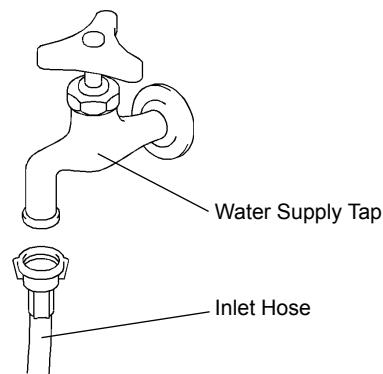

Fig. 4
- 1) Attach the free end of inlet hose to the stop valve (Fig. 4), noting washer is correctly positioned. Hand tighten sufficiently to provide leak free joint. It is a wise precaution to have the stop valve within easy reach.